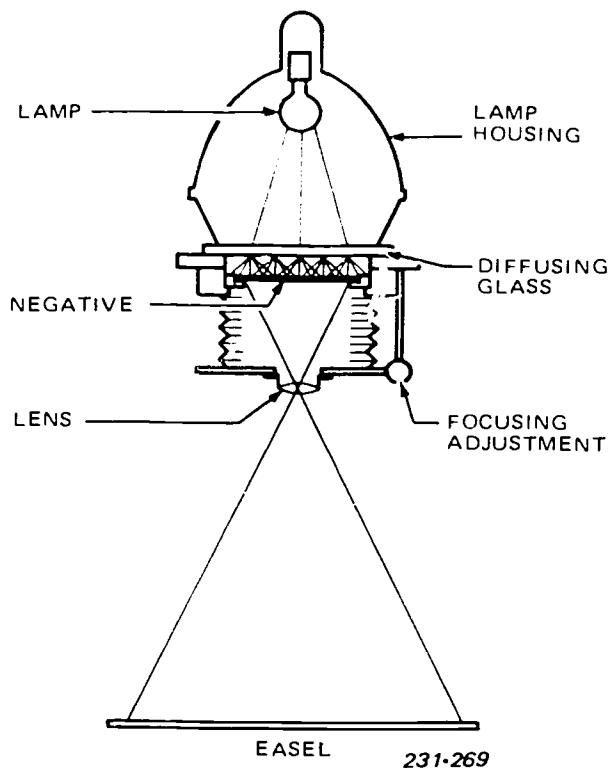

Figure 3-4. Diffusion-type projection printer.
**Diffusion-type projection printer.** The diffusion-type projection printer, shown in figure 3-4, has a diffusion medium between the light source and the negative. Light emitted from the lamp, as well as that reflected from the reflector, strikes the diffuser, which, in turn, scatters it in all directions. Thus when the light